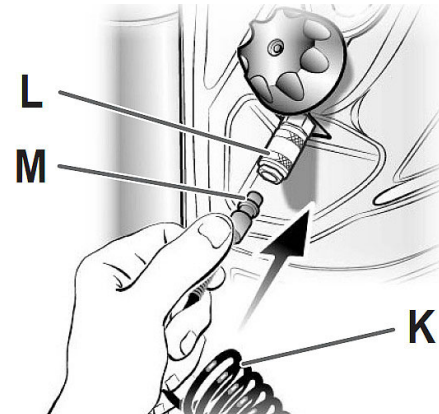

Fig. 4: Connection drain line
Step 4: Connect the air hose (K) to the drain pipe (L) (Fig. 4).
Connect the spiral hose (K) on the side of the coupling (M) to the compressed air outlet (L) (Fig. 4). Insert the coupling (M) firmly until it clicks audibly.